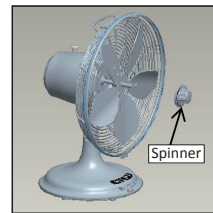

Figure.4
1. Unscrew the spinner clockwise from the motor shaft. Figure 4.
4. Mount the Blade (7) onto the motor shaft through the center hole in the Blade (7). Lock the Blade (7) to the motor shaft by attaching the Spinner by turning counterclockwise onto the shaft (see Fig.4)